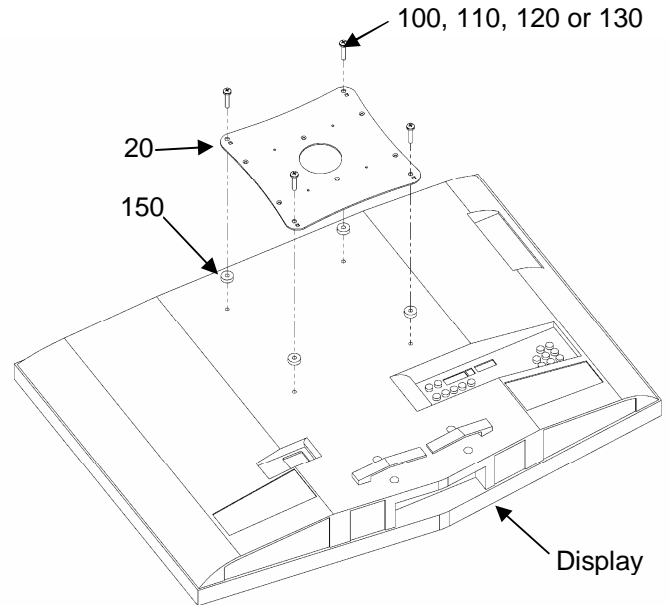

Figure 10. Attach Interface Bracket to Display
2. Place four spacers (150) over four mounting holes in display as shown in Figure 10.